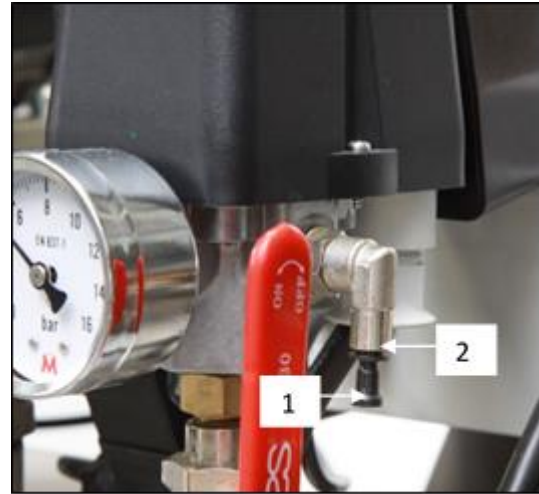

Fig. 15: Connecting the cabinet pressure gauge to the compressor
- Check connection of the cabinet manometer hose to the pneumatic block of the compressor (Fig. 15).